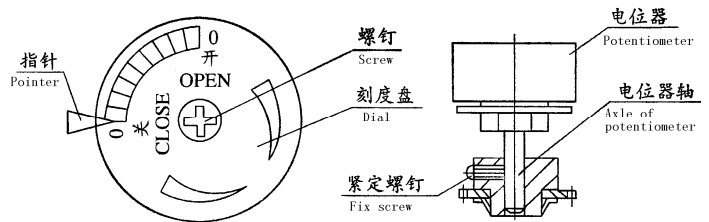

图 7 开度机构 Fig.7 position indicator
1. 开度刻度盘调整，见图 7。当行程控制机构调整完成后，把阀门关闭到“全关”位目视检查刻度盘上的“0 关”刻度是否与指针对正，如没有对正，松开刻度盘上的螺钉，转动刻度盘，使指针与“0 关”刻度对正，然后旋紧刻度盘上的螺钉。
Adjustment of dial, see Fig.7
9. 通常输出轴顺时针转动为关阀,逆时针为开阀(从上朝下看),若要求相反的话,图5中扇形板的“开”、“关”位置;图6中“开”、“关”调节螺钉;图7中刻度盘的“开”、“关”位置这些地方与本说明书不同,以实物为准,说明书不再更改。
In general, clockwise rotation of output shaft of actuator makes valve close, and counter-clockwise rotation of the shaft makes valve open(with view downward). If reverse rotation is needed, "open" and "close" positions of sector plate in Fig.5; adjust screws for "open" and "close" in Fig.6; "open" and "close" positions of dial in Fig.7 will not be consistent with this manual. The indicating marks are shown on the specific product and this manual will not be modified further.